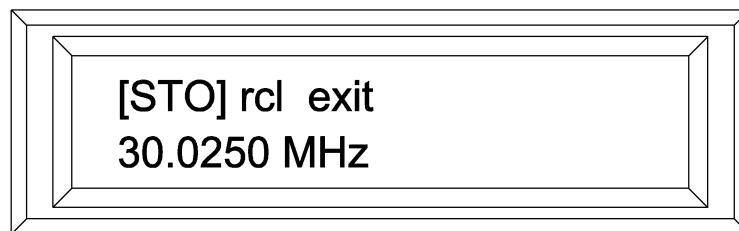

Figure 3.9. Selecting the store function in the mem submenu.
Step 5. Select the **sto** (store) function by pressing the “▼” button once (*figure 3.9*).
Step 7. Proceed with selecting the preset number (in *figure 3.9* indicated with the underlined 1) by using the “▼” or “▲” buttons. Up to six preset frequencies can be stored.
- Step 3.** Hit the “■” select button and the memory submenu is shown (*figure 3.9*).